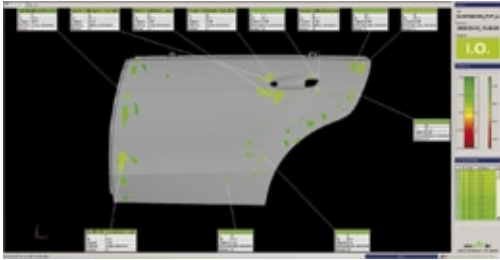

Fig. 3: Indication on visualizing screen
Having become operational in November 2008 in the press plant of Daimler Mercedes-Benz Cars (Sindelfingen), the optical surface inspection system ABIS II has been used (fig. 1), which shows the highest degree of automation and the greatest component flow, compared to other plants at other automobile manufacturers. During the inspection sequence (see fig. 2), a component is placed on the conveyor belt (1), enters the inspection cell (2), and, after its orientation being captured by the single camera above the belt and after the adjustment of the robot path, is inspected by the ABIS II surface inspection system, to be transported out the inspection cell on the exit belt. Near the exit belt, the surface inspection result is shown on a large visualizing screen (fig. 3) Whether the sheet metal part is okay, or needs re-working, or is waste, is shown to the person taking the sheet metal parts off the exit belt by the report on the visualizing screen. With the classic manual auditing, it takes at least 15 minutes to inspect a complete side frame; using the ABIS II system, this task will be finished in less than two minutes.